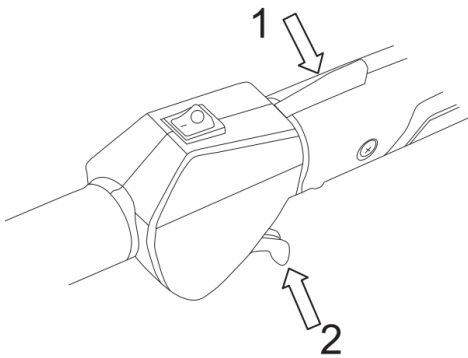

Fig.12
6) After starting the engine, press the safety lever (1), activate the throttle trigger (2) let the engine run for 2 to 3 minutes so that it warms up before subjecting it to any load. (Fig.12)